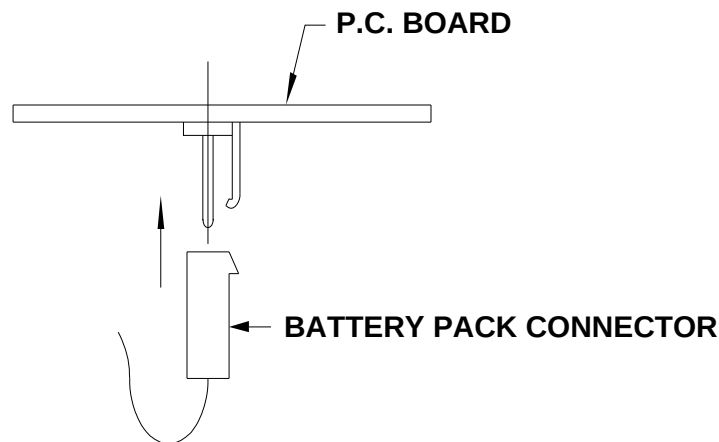

Figure 6-2 Proper Connector Orientation
- h. Verify magnet is still taped over the magnetic reed switch. Re-connect battery connection(s) (see Figure 6-2) and all remaining P.C. board connections.